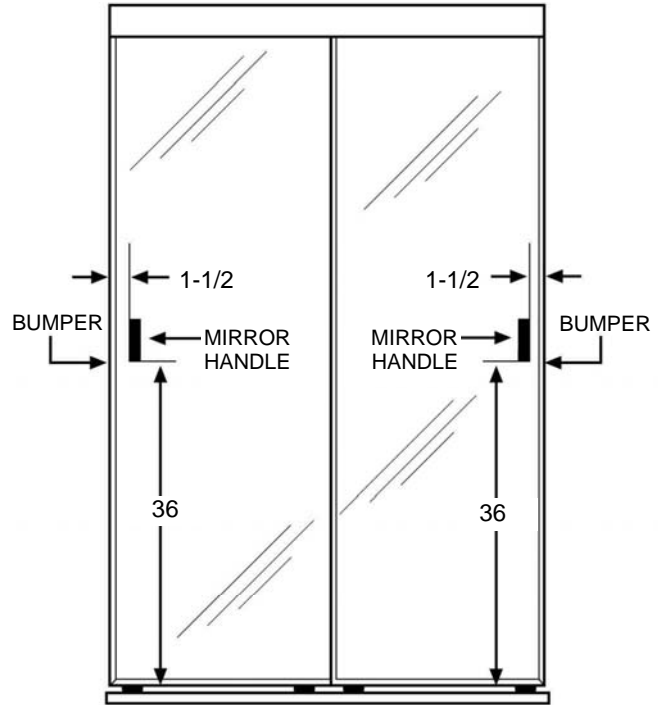

Figure 5
Peel paper off the back of the Clear Plastic Bumpers (#9) and place on the edge of the Mirrored Panel (#1) frame 36 up from the bottom. The Bumpers (#9) will cushion and protect the door and wall when you close the wardrobe doors (See Figure 5).
- A. Clean mirror in the area where the Mirror Handles (#8) will be applied. Peel paper off the back of the Mirror Handles (#8). Position each Mirror Handle (#8) 36 from the bottom of the Mirrored Panel (#1) and 1-1/2 from Side Mold (#12) on each Mirrored Panel (#1) (See Figure 5).